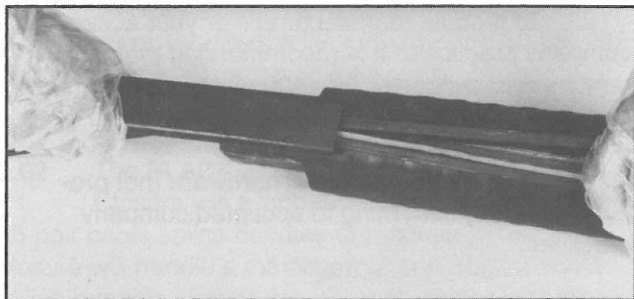

FIGURE 10 - SLIDE ON CLOSING CLAMP
4.09 Starting on the end of the closure opposite the cable, squeeze halves together enough to start V-notched end of closing clamp. (Figure 10)